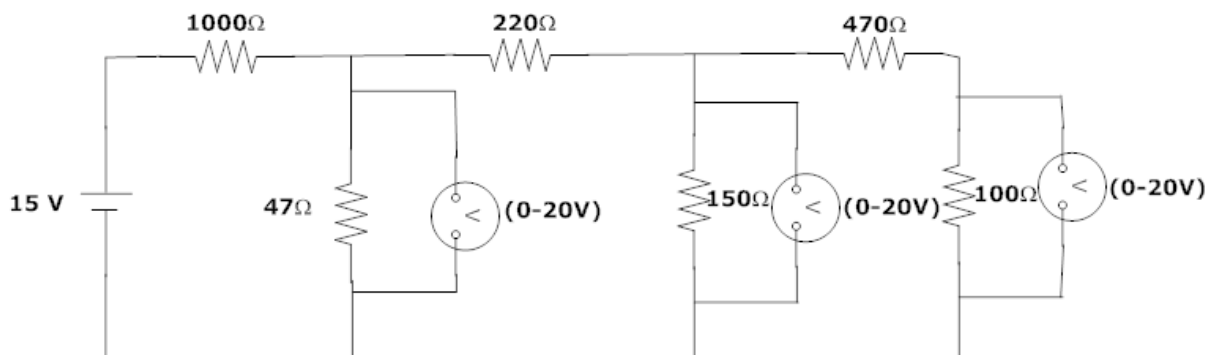

Figure 3.1 Nodal Analysis
1. Connect the circuit diagram as shown in Figure 3.1.